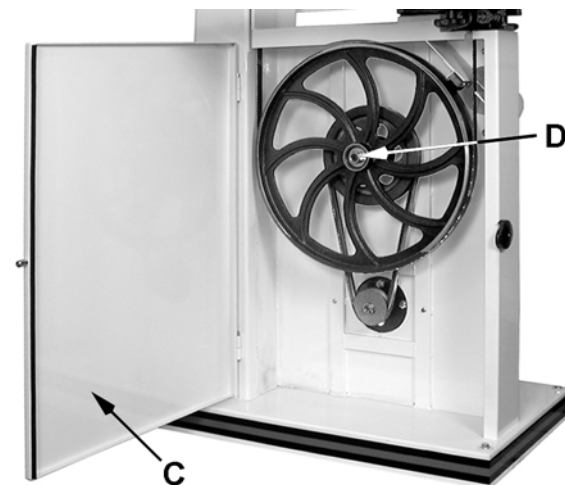

Figure 26
4. Open the lower wheel *door* (C, Fig. 26) and remove the *hex nut* and *washer* (D, Fig. 26).